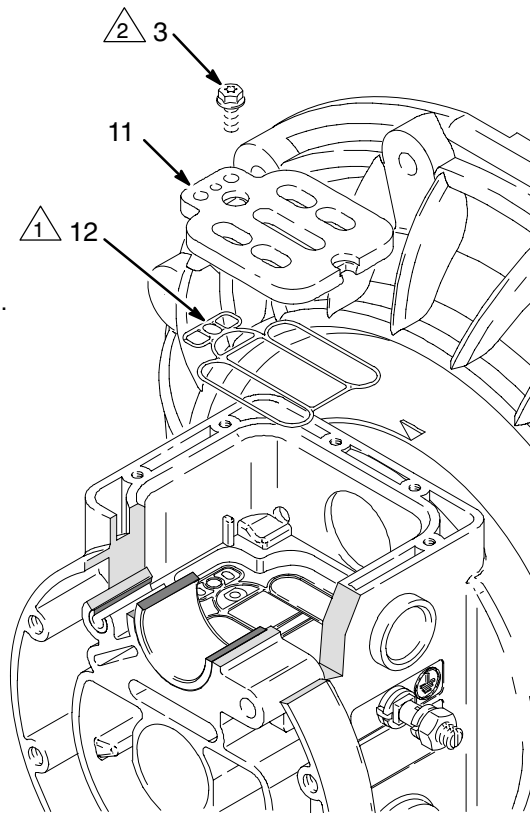

Fig. 5
2. With a 7-mm or 9/32-in. socket wrench or Torx® T20 screwdriver, remove the screws (3), air valve cover (5), and valve cover gasket (20).
3. Move the main valve (6) to the center position, and pull it out of the cavity. Using a needle-nose pliers, pull the pilot block (16) straight up and out of the cavity.
4. Pull the two actuator pistons (7) out of the bearings (8). Remove the u-cup seals (9) from the pistons. Pull the push pins (18) out of the bearings (17). Remove the o-rings (19) from the housing (2) with an o-ring pick.
5. Inspect the valve plate (11) in place. If damaged, use a Torx® T20 screwdriver or 7-mm or 9/32-in. socket wrench to remove the screws (3).
6. Remove the valve plate (11) and seal (12). See Fig. 5.
For steps 1 to 3, see Fig. 5.